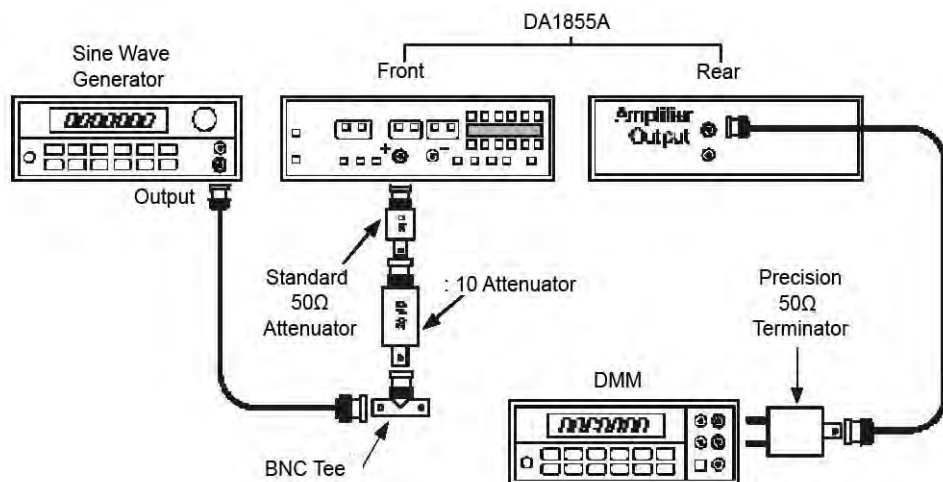

Figure 13, X10 Gain Accuracy Test Setup 4.
20. Insert the precision $50 \text{ } \Omega$ termination between the other end of this cable and the input of the DMM. See Figure 13.